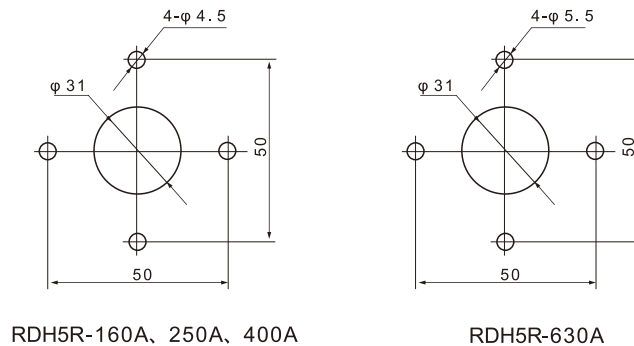

Figure 5 Panel opening Size (off Cabinet Operation)
Panel opening size (see Figure 5)
- ☐ Determine the installation center position of the handle according to the shape and installation size of the switch, open an opening on the cabinet door panel according to the panel opening size (see Figure 5), and then fix the handle on the cabinet door panel.
- ☐ Turning the handle clockwise closes the switch, while counterclockwise rotation disconnects it. Before each operation, check the switch's status: when in the open position (0), clockwise rotation is required to close the switch; when in the closed position (I), counterclockwise rotation is necessary to disengage it.